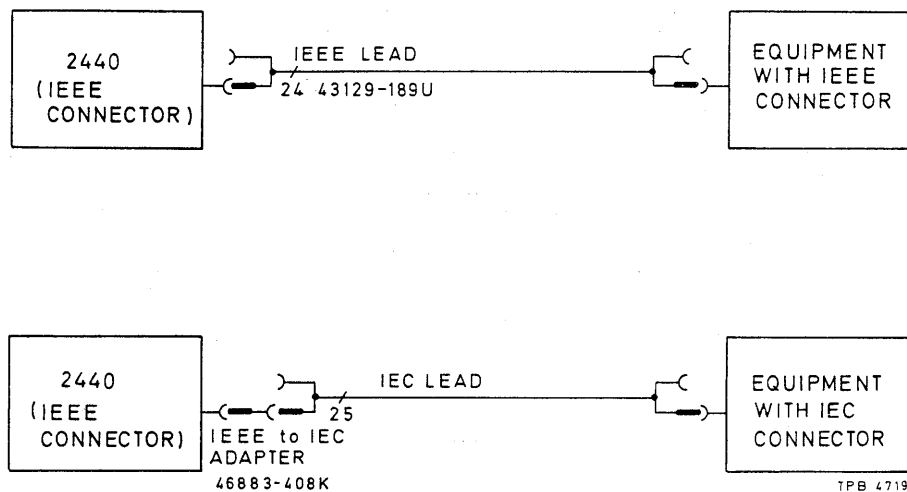

Fig. 6 GPIB interconnections
20. Connection to other equipment which has a 24-way bus connector to IEEE Standard 488 can be made with the GPIB lead assembly 43129-189U, available as an optional accessory. An IEEE-to-IEC adapter 46883-408K is also available for interfacing with systems using a 25-way bus connector to IEC Recommendation 625 - see Fig. 6.